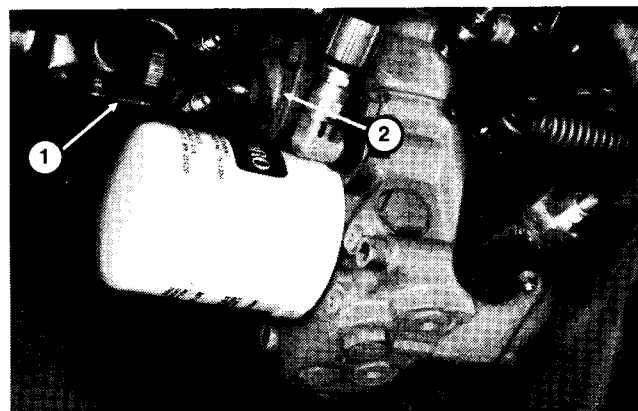

Figure 27
2. Disconnect the drive shaft from the transmission (Fig 27).